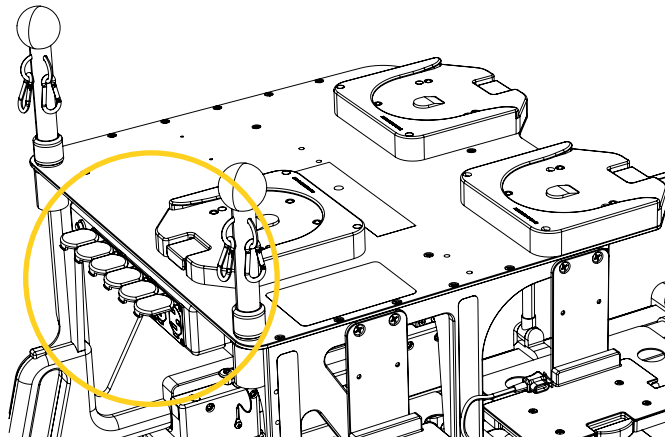

Figure 41: Power bar location
1. Towards patient foot end, locate the power bar at the front of the mobile structure, under the mobile structure top plate (Figure 41).